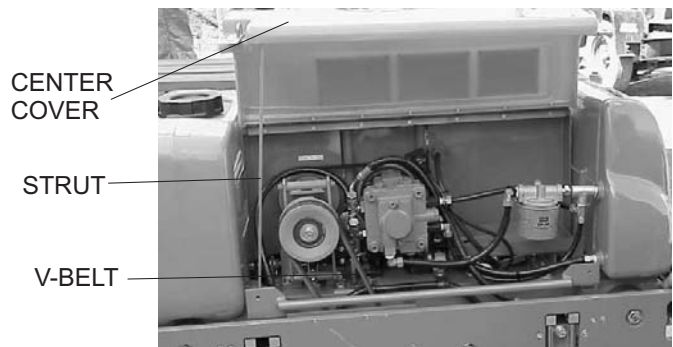

Figure 7. Checking V-Belt Tension
1. Remove the 2 bolts, one on each side of the center cover, with a #13 socket wrench. Open the center cover of the machine and support it with the strut by inserting its end to the hole in the base (Figure 7).